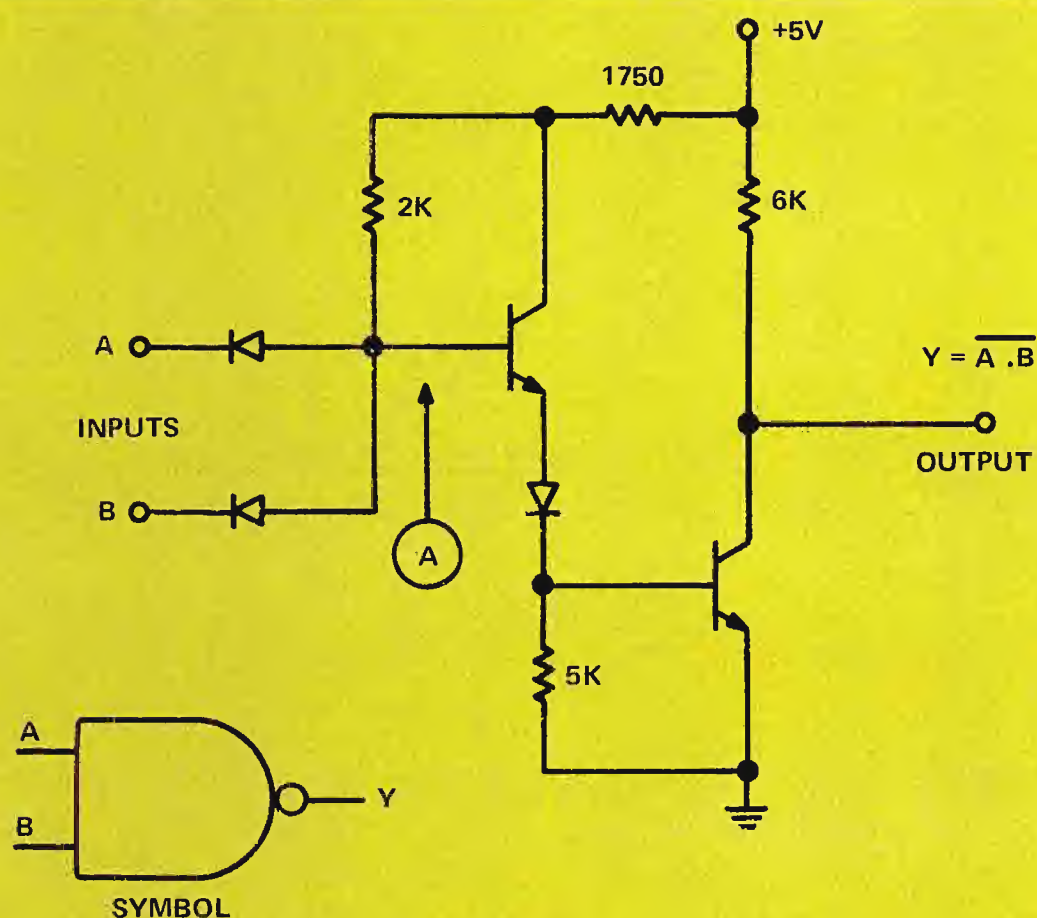
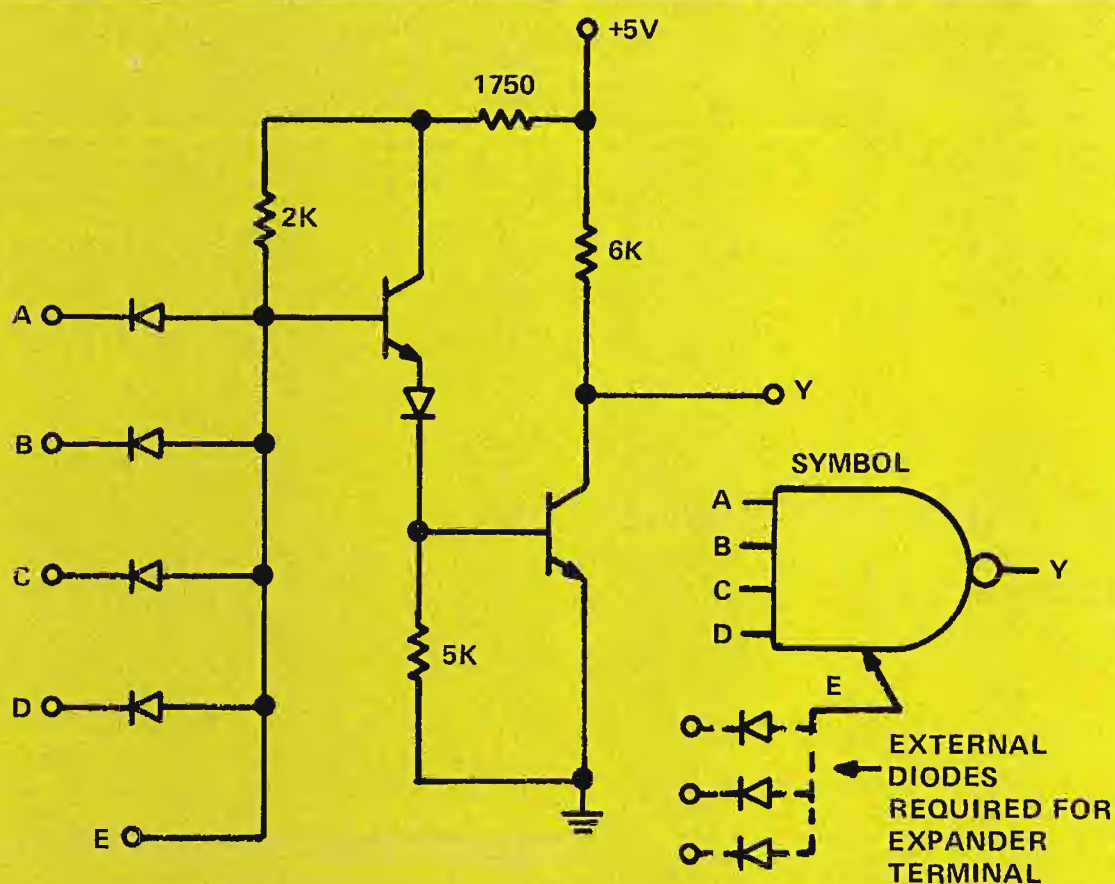

Fig. 5. DTL 2-Input NAND Gate (1/4 of Type 946)
Fig. 6. 4-Input DTL NAND Gate with Expander Terminal
The DTL inverter of Fig. 3 may be converted to a 2-input NAND gate by the simple addition of another input diode, as shown in Fig. 5. The voltage at point (A) in this circuit can be pulled down to about 0.7 volts if either A or B goes to the LOW state. In effect, the two input diodes in association with their bias resistors form an AND gate, and the two transistors form an inverter. Two more inputs are provided by the DTL circuit shown in Fig. 6, which also shows an *expander* terminal. This expander terminal provides access to the appropriate circuit point for the attachment of external diodes for still more inputs.